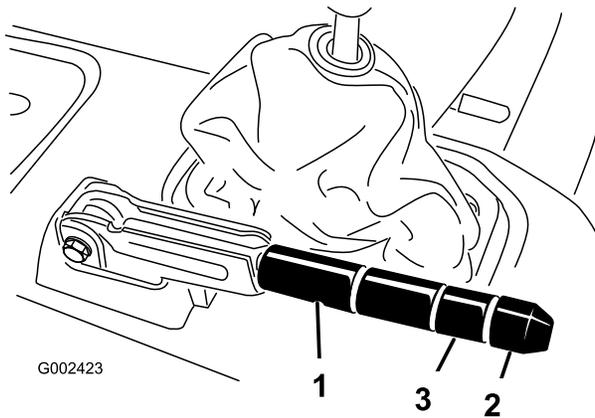

Figure 68
2. Loosen the set screw securing the knob to the parking brake lever (Figure 68).